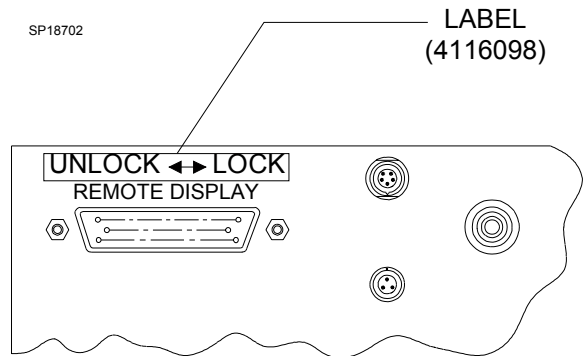

FIGURE 2. Label Installation
7. Install the UNLOCK <---> LOCK label above the remote display connector as shown in Figure 2.